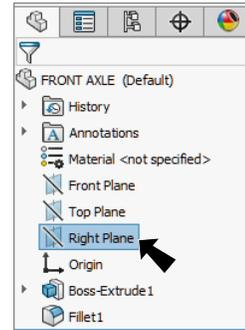

Fig. 8
Step 1. Click **Right Plane**  in the Feature Manager to select Plane, Fig. 8.